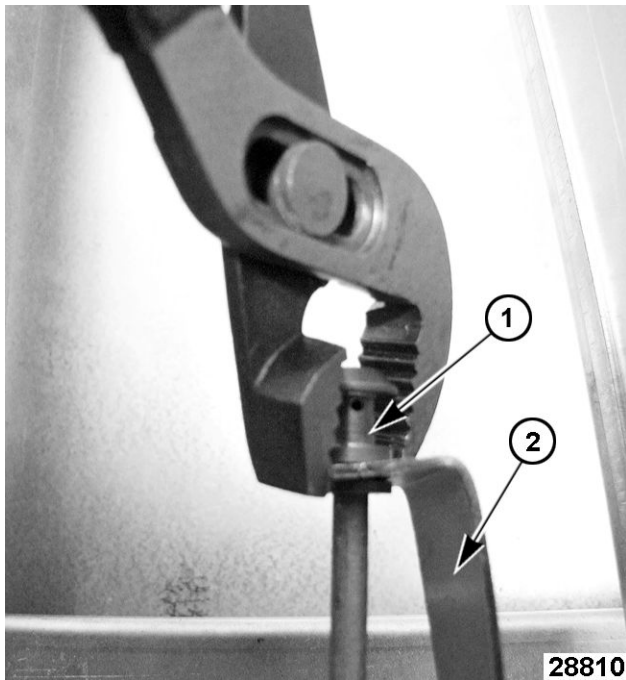

Fig. 56
6. Remove pilot tube assembly (1, Fig. 56) from pilot bracket (2, Fig. 56). Use pliers to separate as needed.